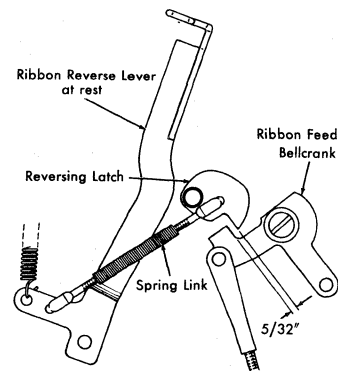

Figure 50. Ribbon Spring Link Adjustment
5. Adjust the spring links so that, in the supply position with the pawls disengaged, the reversing latches clear the path of the ribbon feed bellcranks by about $\frac{5}{32}$ " (Figure 50).